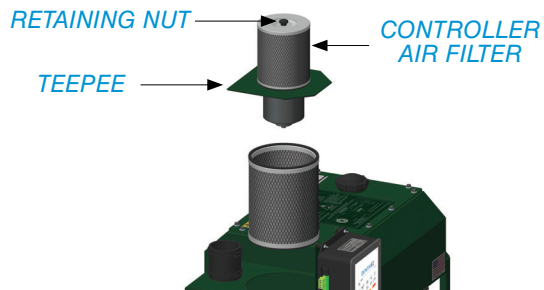

FIGURE 46. REPLACE CONTROLLER AIR FILTER
- Remove the retaining nut from the top of the controller air filter (FIGURE 46).